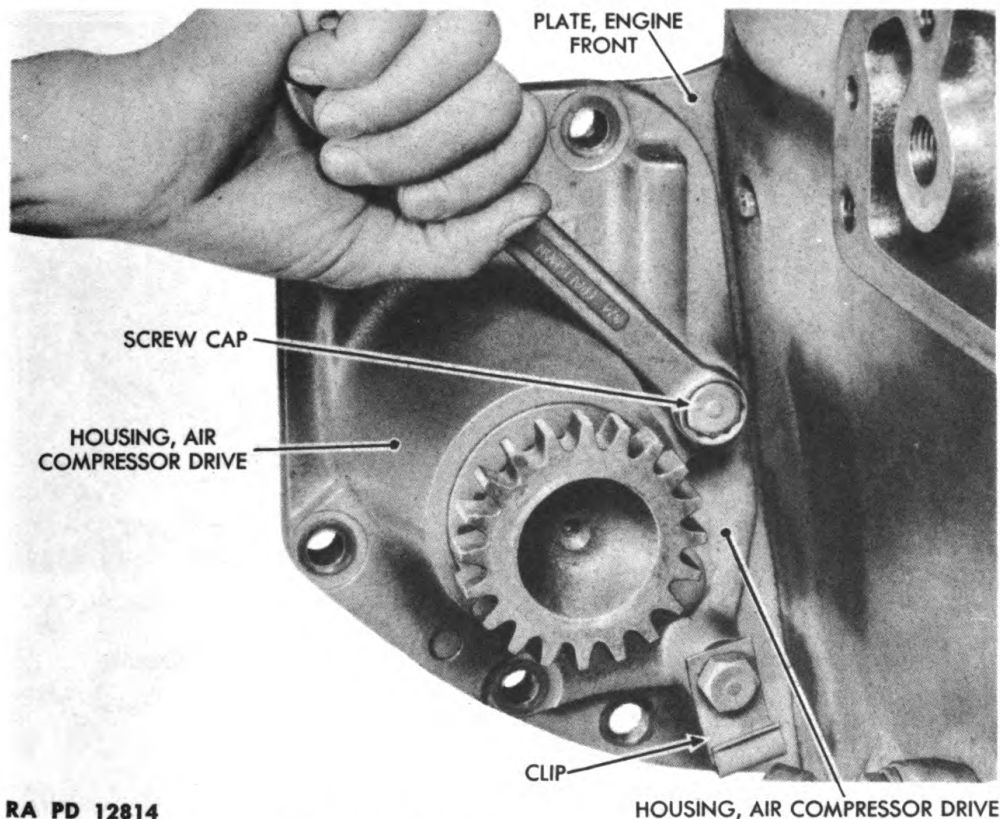

Figure 48—Air Compressor Drive Removal
(1) **DISCONNECT AIR COMPRESSOR DRIVE HOUSING FROM ENGINE FRONT PLATE (fig. 48).**